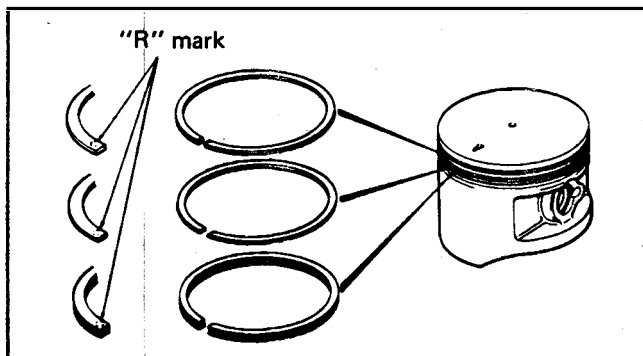

Figure 99
6. Mount the piston rings on the piston. Use a ring expander and make sure the "R" mark faces the top of the piston on each ring. See Figure 99.